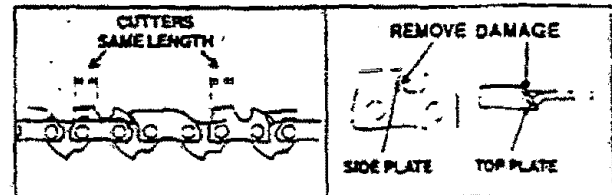

Figure 30
- d.) Keep all cutters the same length. Figure 30.
- e.) File enough to remove any damage to cutting edge(side & top plate) of cutter. Figure 30.